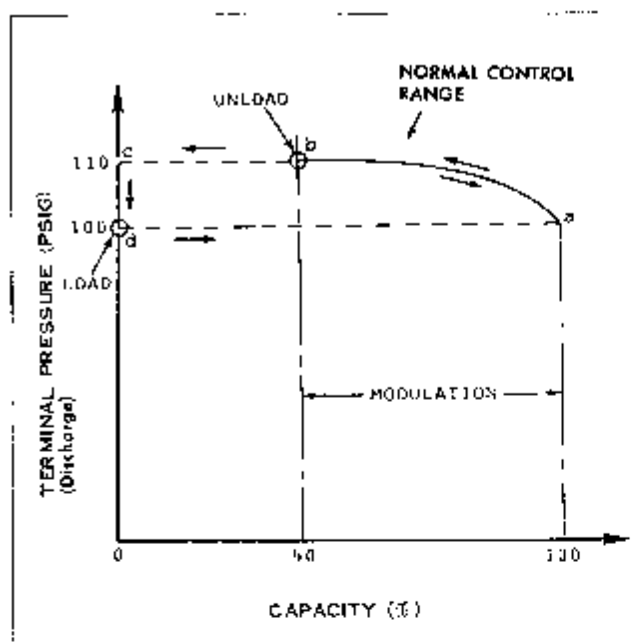

FIGURE 10
*See Figure 10.
The primary components in the control system that govern the operation of the inlet valve are the control valve, an air pressure switch and an unloader valve. In operation, let us assume that the compressor is to operate at 110 psig maximum pressure. On start-up the inlet valve will be fully open. As compression commences pressure rises. At 100 psi the control valve will begin to send a secondary pressure to the inlet valve which will start to close the inlet valve. Thus, as discharge pressure increases, capacity diminishes. See a to b Figure 10. If discharge pressure should drop, control valve pressure will decrease allowing the inlet valve to move open and capacity to increase. Between 100 psi and 110 psi, output capacity will modulate between 40 percent and 100 percent.
The control valve provides the control air signal required to operate the inlet valve when discharge pressure is in the "normal control range." (See Figure 10 and Section 3 — "Control Valve" for additional details.